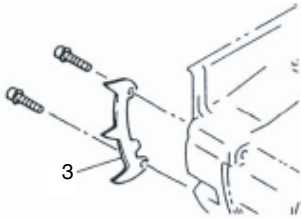

Fig. 2
* In case of installing the spiked bumper (3), install the spiked bumper (3) (if so equipped) to the unit with two screws. (Fig. 2)